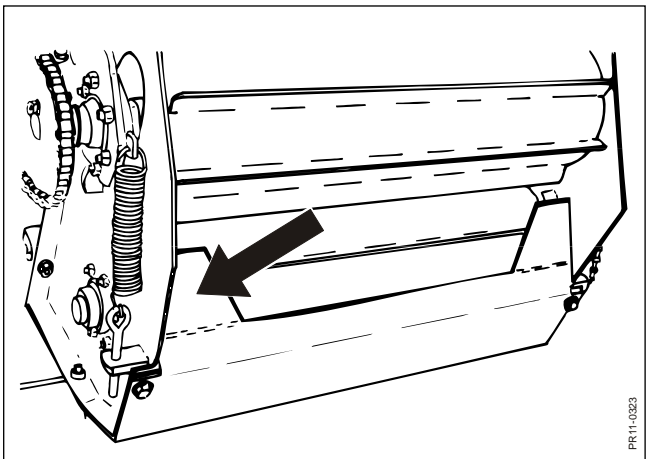

Fig. 3.13
- Fig. 3.13** Mount the maize plate as shown on the figure. The "flaps" must turn towards the roller.